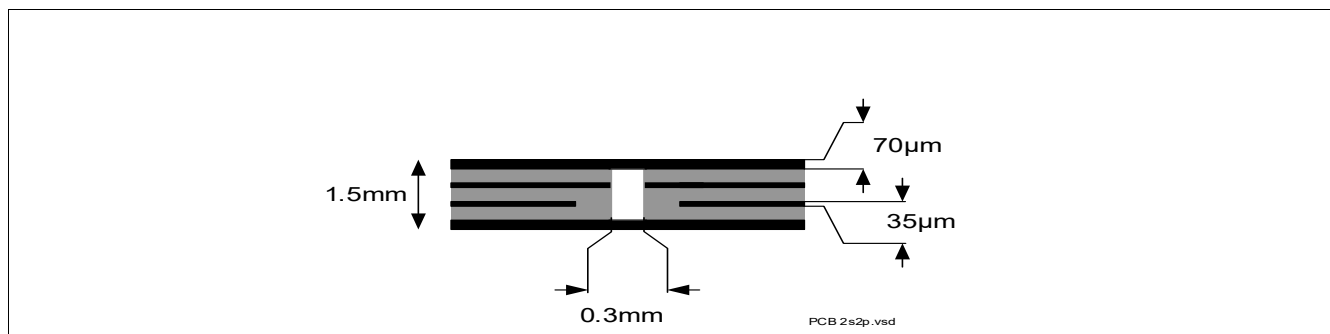

Figure 4 2s2p PCB Cross Section
2) Specified R_{thJA} value is according to JEDEC JESD51-2,-5,-7 at natural convection on FR4 2s2p board with 1 W power dissipation at $T_A=105^\circ\text{C}$; The product (chip + package) was simulated on a 76.4 x 114.3 x 1.5 mm board with 2 inner copper layers (2 x 7 μm Cu, 2 x 35 μm Cu). Where applicable, a thermal via array under the exposed pad contacts the first inner copper layer. Please refer to Figure 4.